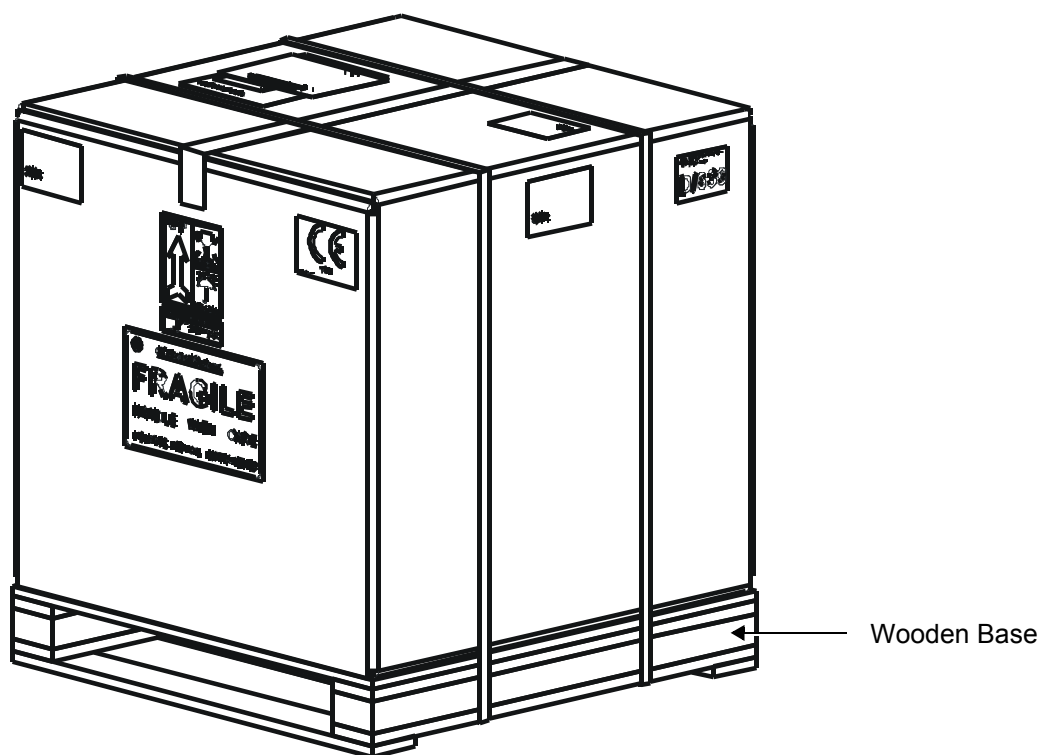

Figure 3-2 Shipping Carton - Vivid-i™/ Vivid-q™ with Peripherals and SafeLock Cart
The Vivid-i™/ Vivid-q™ ultrasound unit, together with the optional SafeLock Cart (if ordered), peripherals, probes, cables, and accessories, are shipped from the factory in a single cardboard shipping carton mounted on a raised wooden base - see Figure 3-2 on page 3-5.
- 1.) Cut the steel straps securing the shipping carton to the wooden base - see Figure 3-2 on page 3-5.